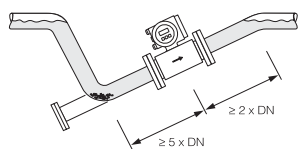

Fig. 2: Installation in a siphon
- The flowmeter should then be installed in a siphon (fig.2).